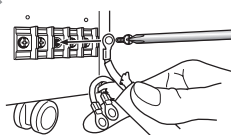

Figure 3
- (5) Cover the terminal block with terminal block cover (with cable clamp) , and fasten the previously removed screws to the two locations on the upper side of the cover. Tighten the cable clamp dial to stabilize the wire.(See Figure 3.)